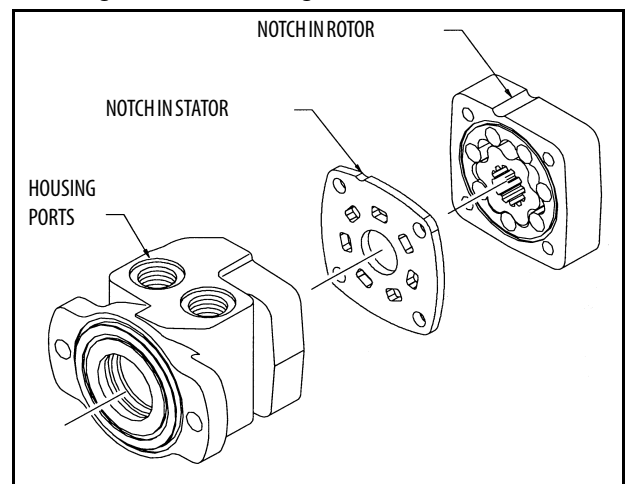

Figure 3-19. Notch Alignment
9. Using alignment marks as a guide, place the wear plate on the housing making sure the notch in the wear plate is aligned with the port side of the housing as shown in Figure 3-19., Notch Alignment.
12. Once splines are engaged, rotate rotor so the notch on the rotor is aligned with the notch on the wear plate and the ports on the housing. Refer to Figure 3-19., Notch Alignment.